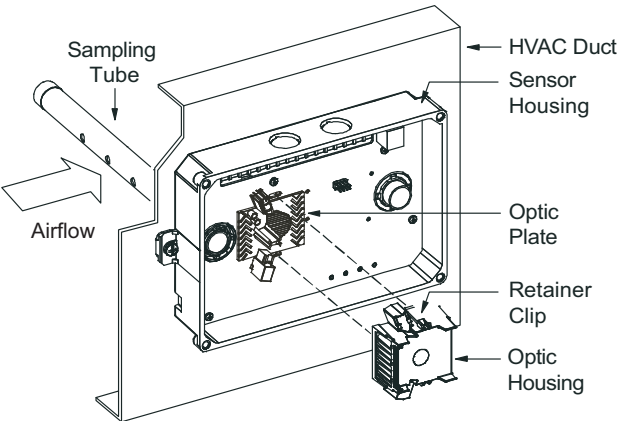

Fig. 43 — Sensor Cleaning Diagram
1. Disconnect power from the duct detector then remove the sensor’s cover. See Fig. 43.